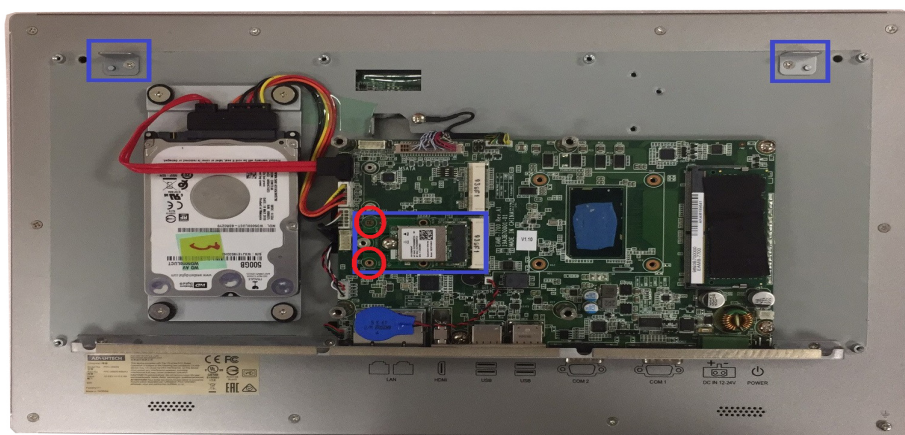

Figure 2.13 Installing the wireless LAN card
1. Insert the full-size mini PCIe card into the socket. Secure the card in place using two screws provided in the accessory box. Next, replace the original bracket with the holed antenna bracket provided in the accessory box (Figure 2.13).
**Note!** If a half-size PCIe is used, then use the hexagonal screws provided in the accessory box. Screws in red circles should be tightened, See Fig 2.13